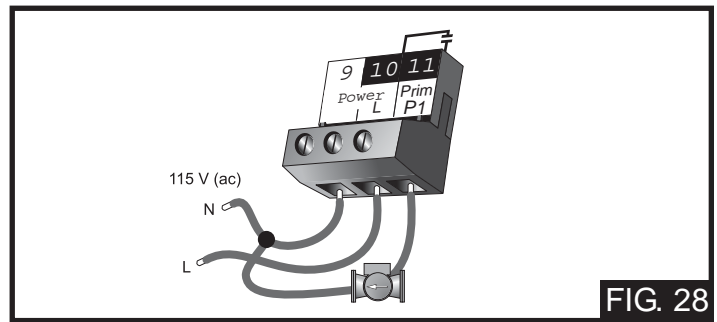

FIG. 28
The Prim P1 output terminal (11) is a powered output. When the relay in the control closes, 115 V (ac) is provided to the Prim P1 terminal (11) from the Power L terminal (10). To operate the primary pump, connect one side of the primary pump circuit to terminal 11 and the second side of the pump circuit to the neutral (N) side of the 115 V (ac) power supply, see Figure 28.